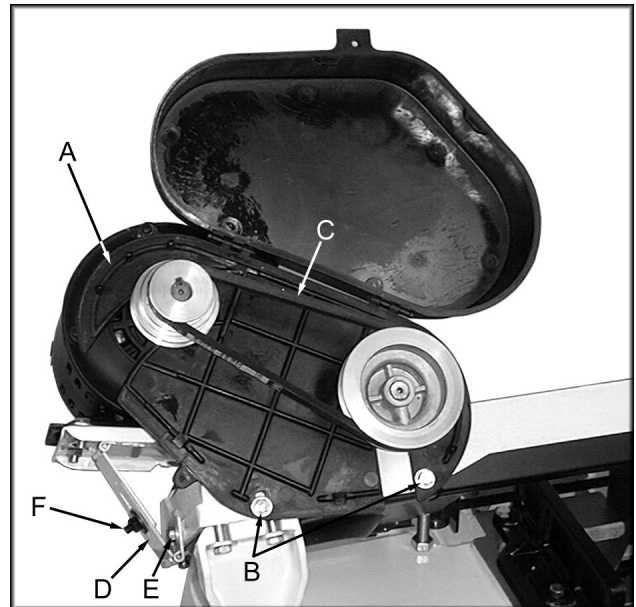

Fig. 5
11. Slide pulley cover (A, Fig. 5) around motor shaft and worm gear shaft. Secure with two hex cap screws and washers (B, Fig. 5).
12. Lift motor with one hand while the other hand places V-belt (C, Fig.5) on both pulleys.
13. Attach the tension bracket (D, Fig. 5) to the saw bow with one 5/16"x3/4" hex head bolt and flat washer (E, Fig. 5).
14. Connect the two tension brackets with one 5/16"x3/4" carriage bolt, one 5/16" flat washers and one 5/16" hex nut (F, Fig. 5).
15. Tension belt by pressing down on the motor while tightening hex nut (F, Fig. 5) until finger pressure on the belt between the two pulleys causes approximately 1/2" deflection. Close pulley cover. Don't over tighten the belt.